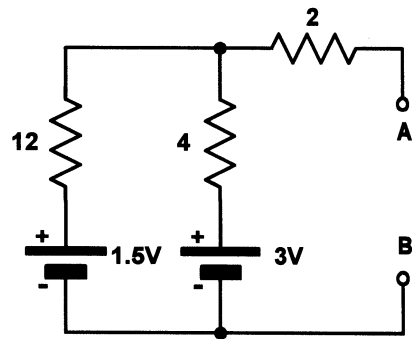

Figure 3.45
- 3.14 Determine the Thévenin equivalent of the circuit shown in Fig. 3.45.